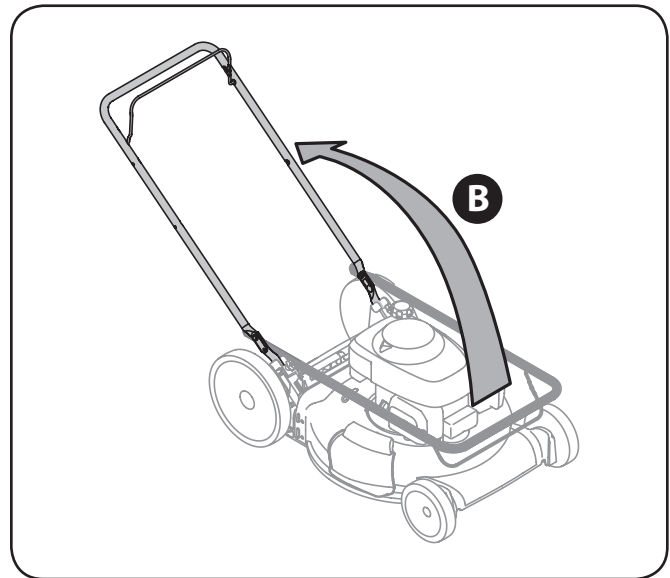

Figure 3-2
- b. While stabilizing mower so it doesn't move, pivot upper handle up as shown in Figure 3-2. Do not crimp cable while lifting the handle up.